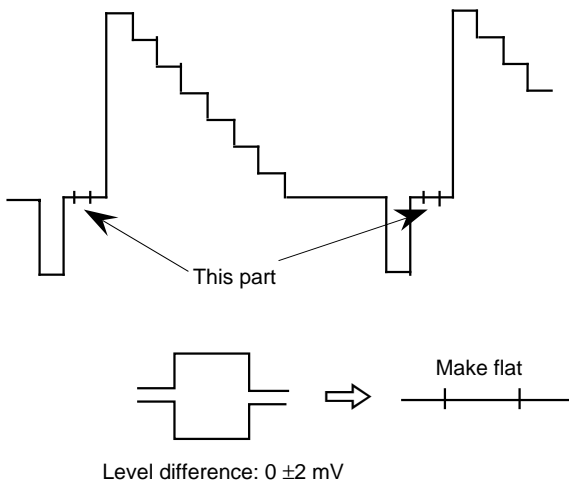

Fig. 5-4
3. As shown in Fig. 5-4, adjust the Y CLAMP OFFSET data so that the pedestal and clamp offset pulse level becomes equal.